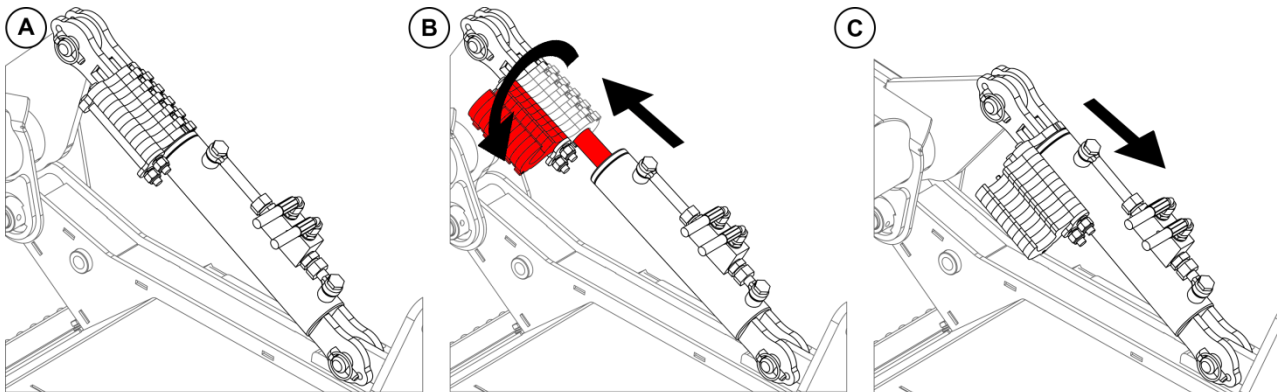

Figure 4.6
- 4.4.2.2 Ensuring the hoses are seated properly, enter the tractor cab and use the tractors hydraulic control levers/buttons to completely fill the centre and wing axle lift ram cylinders with oil and raise the machine to create a clearance between the end of the ram and the spacer; see Figure 4.6 (B).
- 4.4.2.3 Switch off the tractor engine off and ensuring the tractor parking brake is engaged leave the driver's seat and proceed to remove all the ram spacers from both of the centre axle lift rams; see Figure 4.6 (B).
4.4.2.9 Raise the machine fully. Switch off the tractor engine off and ensuring the tractor parking brake is engaged leave the driver's seat and proceed to **fit all 10 ram spacers** into both of the centre axle lift rams; see Figure 4.6 (A).